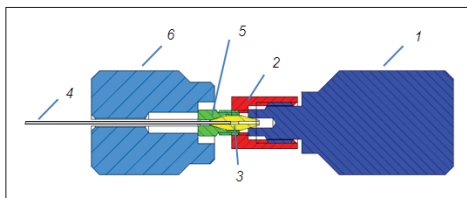

Figure 2. Section view of the first stage of swaging the male end fitting onto the double taper ferrule.
3. To swage the male  $\mu$ -connector end fitting (5) onto the double taper ferrule first slide the male end fitting onto the capillary tubing (4) – the thread of the end fitting should be facing towards the cut end of the capillary tubing. Locate a double taper ferrule (3) and place it into the nut (2) – it simply sits in the nut.
4. Insert the capillary into the double taper ferrule and slide the male end fitting (5) into position making sure the capillary seats inside the ferrule – there is a stop designed within the ferrule. Gently tighten the male end fitting with your fingers until you feel resistance. Locate one of the FingerTite  $\mu$ -connector male/female end fitting tools (6) and slide it over the capillary via the slot cut into the tool. Ensure the end fitting tool has the appropriate feature to seat the male end fitting. Tighten the fitting to swage the ferrule - do not over tighten, finger force is all that is necessary to swage the ferrule onto the capillary (see Fig. 2). You have completed the first step in installing the SilTite™  $\mu$ -Union.